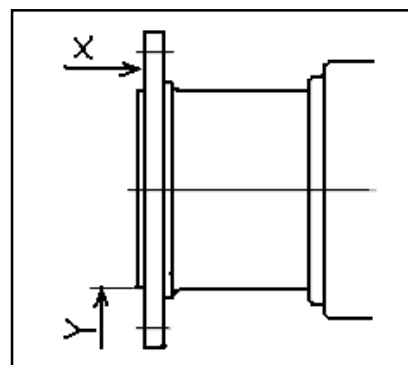

Figure 8
- Ensure that the mounting surface accuracy of the flange on the equipment side (Figure 8) satisfies the values in the following table.